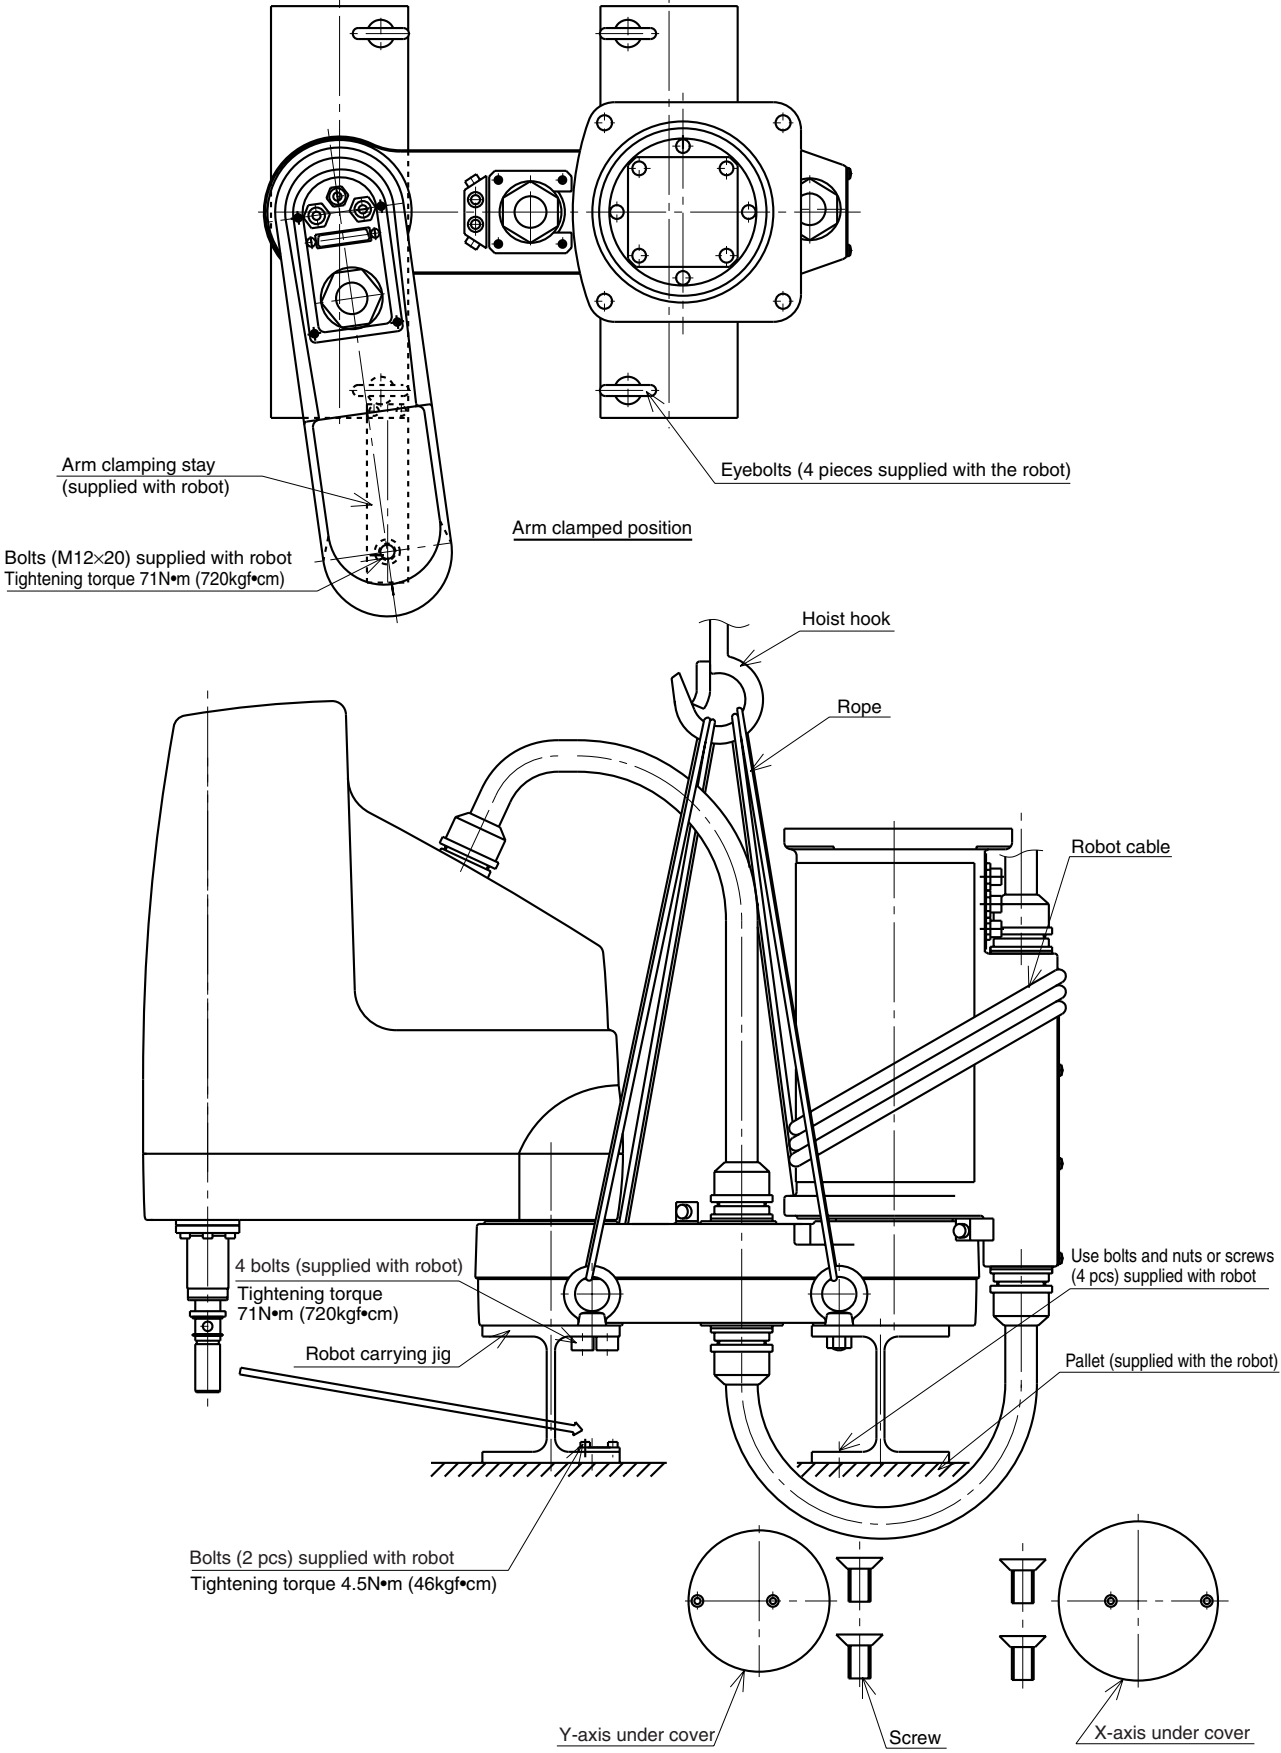

Fig. 2-4
(1) When using eyebolts (See Fig. 2-4.)
- 1) Remove the X-axis and Y-axis under covers and attach the carrying jigs as shown in Fig. 2-4. Remove all loads if attached to the Z-axis to set the servo free and release the brake. Then fold the Z-axis to a position where it can be fastened to the arm clamping stay
- 3) Clamp the Y-axis arm by using the stay and bolts that come with the robot. If the arms cannot be folded in the carrying position (see Fig. 2-4) due to the X-axis mechanical stoppers, then remove them. (When the robot is shipped, the mechanical stoppers are installed to provide the maximum movement range.)